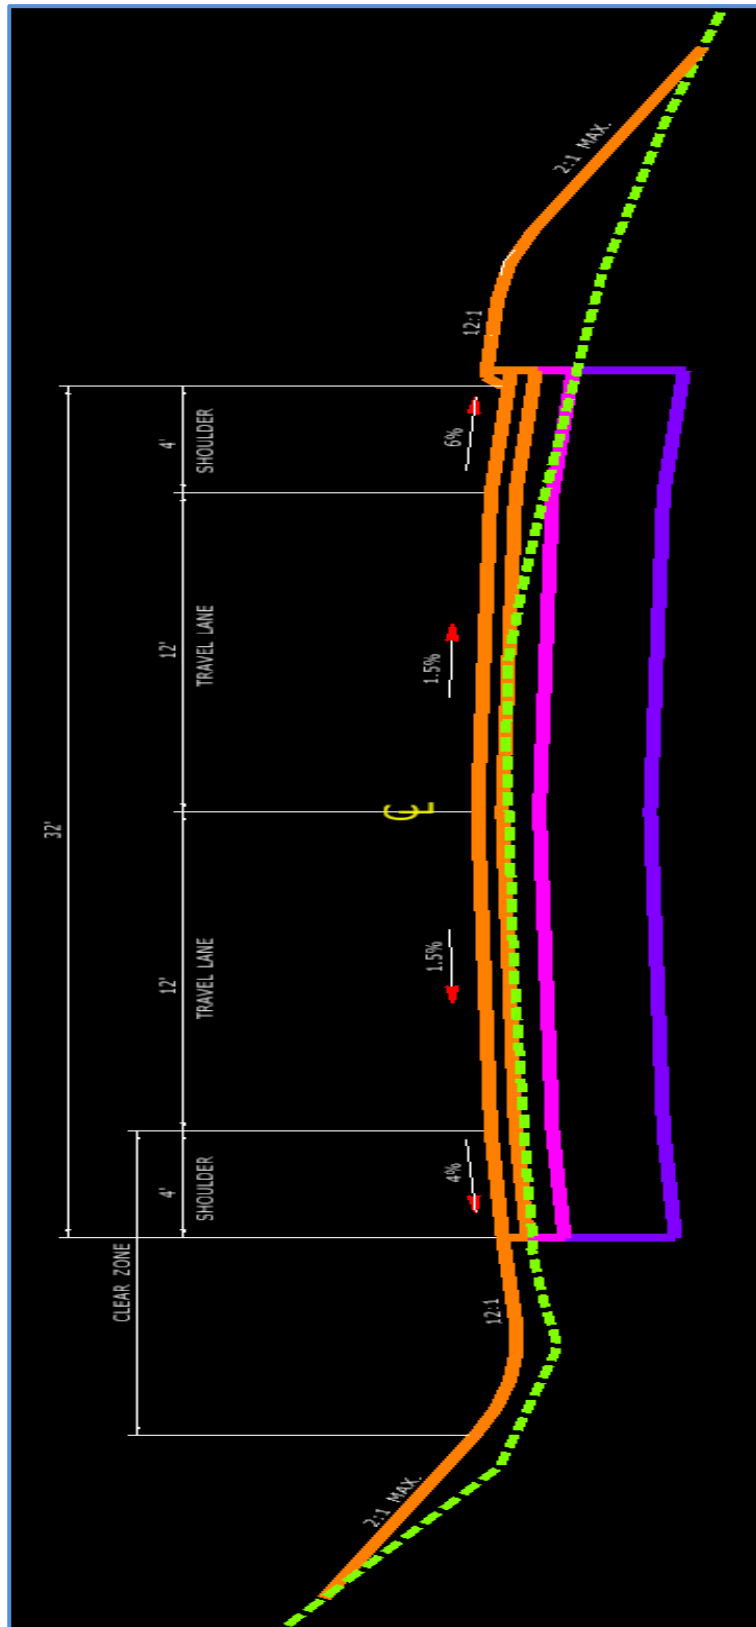

Figure 65 - Typical Section using *InRoads* Template
6. **Finish** by drawing the existing ground, snow shelves and fill/cut slopes and add dimensions and notes as needed, see Figure 65. Make sure you use the correct symbology for the items. For annotation see Section 4.3 Contract Sheet Annotation.